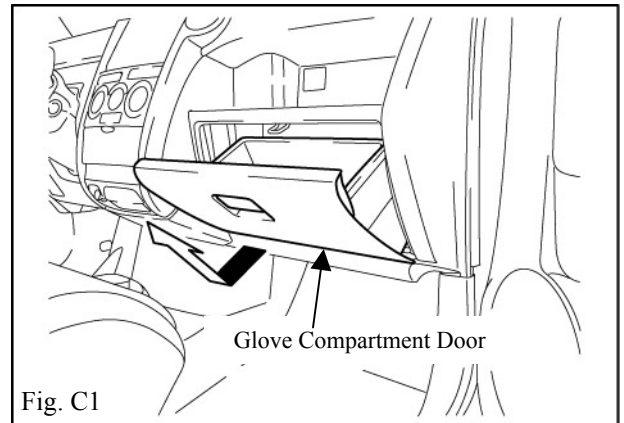

Fig. C1
- ➡ 1. Remove the glove compartment door. (Fig. C1)